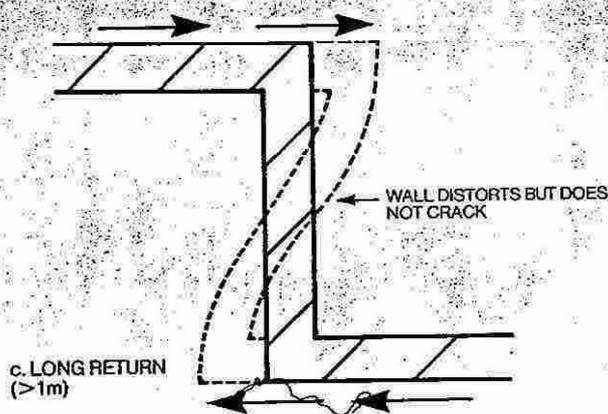

Fig. 12
- (b) Short return walls should be avoided as far as possible. Any return wall will be affected by the expansion forces in the brickwork in both adjoining walls. Where short returns are unavoidable, incorporate type A joint as shown in 'b'. Fig. 12. This is aggravated by the wall sliding on the d.p.c. Correct choice of the d.p.c. material is therefore important and advice should be sought from the manufacturer, or Ibstock Technical Services Department.